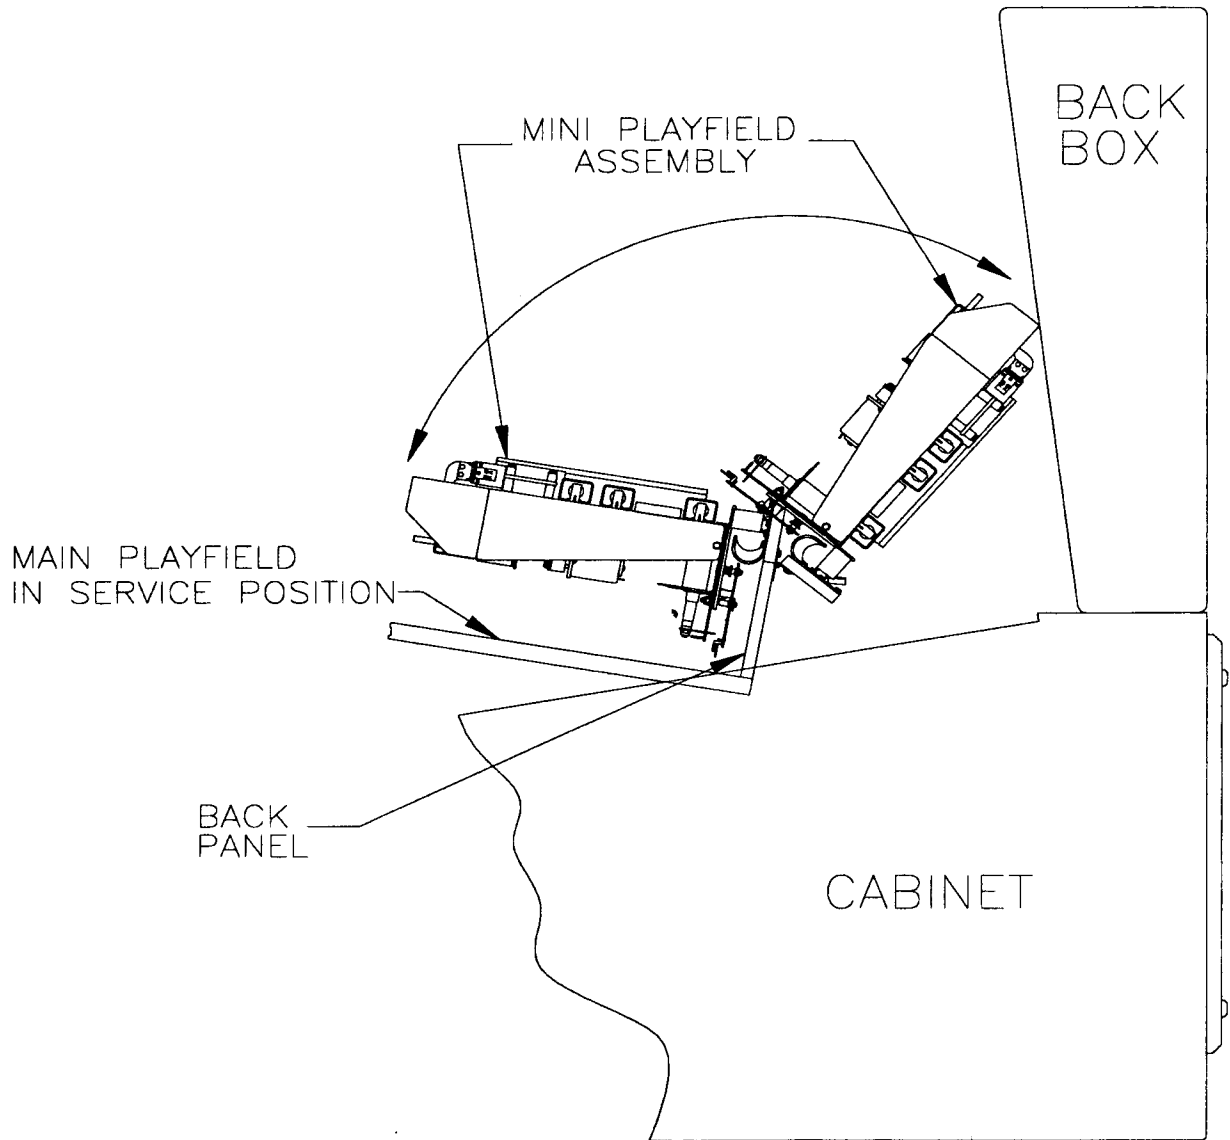

Fig. 2
2. With the main playfield in its service position (i.e. tilted up and moved forward resting on its support brackets), grasp the front edge of the mini-playfield and swing it up and over its hinge point and rest it against the back box. (See Fig. 2)